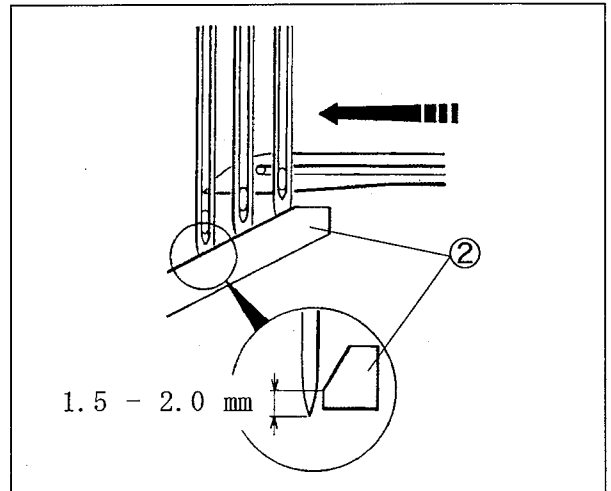
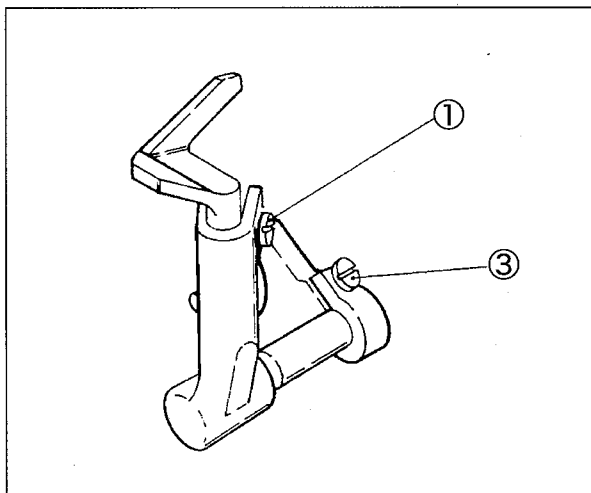

Fig. 61
Fig. 62
- (1) Turn the handwheel clockwise until the looper tip meets the center of the left needle. (Fig. 61)
- (2) Loosen the screw①. Adjust the height from the needle tip to the angular part of the needle guard(front)② to 1.5 - 2.0 mm.
- (3) Tighten the screw① securely. (Fig. 62)
- (5) Tighten the screws① and ③ securely. (Fig. 62)